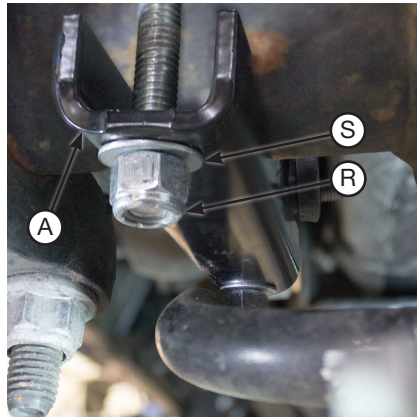

fig. D.21
4. Set the lower clamp bar (A) over the carriage bolts under the axle (Fig. D.21). Attach with 3/8" flat washers (S) and 3/8"-16 nylon lock nuts (R). Evenly torque the lower clamp bar hardware to 16 lb.-ft. (22Nm). Finish tightening the U-bolt hardware previously snugged by torquing to 10 lb.-ft. (14Nm).